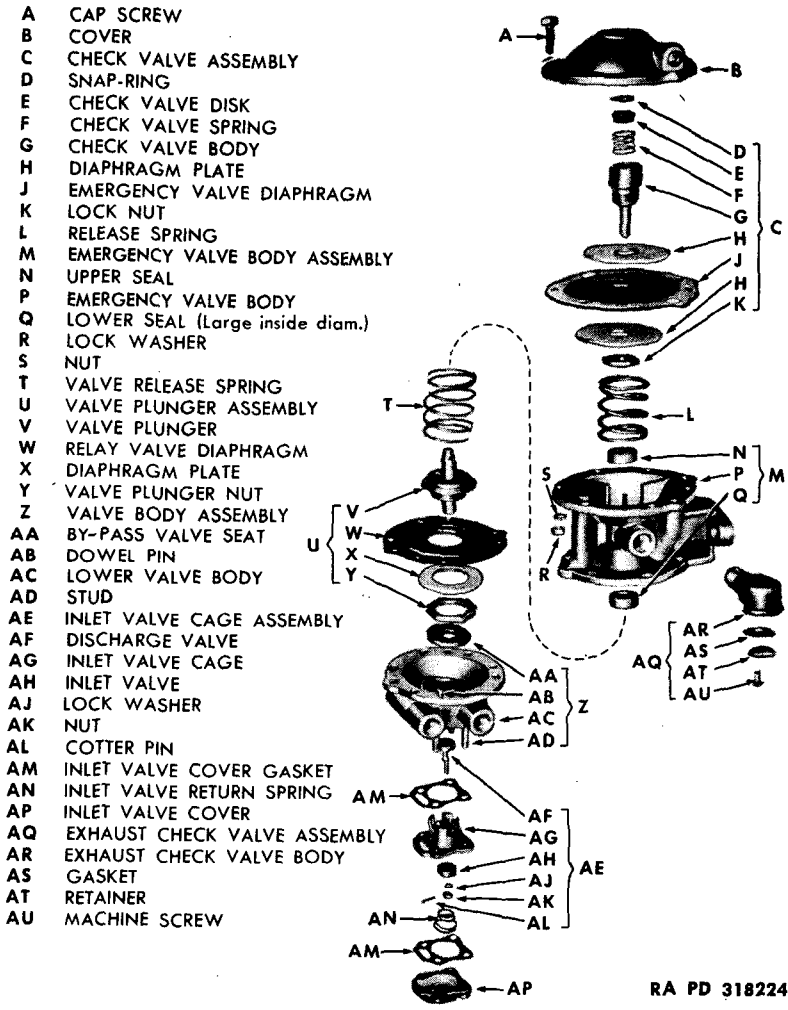

Figure 11 — Relay-emergency Valve — Disassembled
a. **Description.** The relay-emergency valve (fig. 11) serves as a relay station to speed up the application or release of the trailer brakes, and also provides a means of automatically applying the
in face of nut and threads. Place punch marks directly opposite each other. Place check valve spring in cavity at top of valve body. Place check valve disk assembly on top of spring with the rubber surface down. Lock the spring and check valve disk in position, using snap ring (fig. 11).
c. **Assembly.** Place discharge valve in the pronged end of inlet valve cage with rubber surface toward the outside (fig. 11). Place inlet valve assembly over stem of discharge valve with the rubber surface down. Install lock washer and nut. Secure nut, using cotter pin. Coat metal surface of by-pass valve assembly with type A sealing compound.